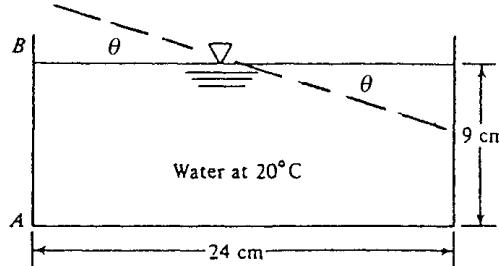

Fig. P2.142
**2.142** The tank of water in Fig. P2.142 is 12 cm wide into the paper. If the tank is accelerated to the right in rigid-body motion at  $6 \text{ m/s}^2$ , compute (a) the water depth at AB, and (b) the water force on panel AB.